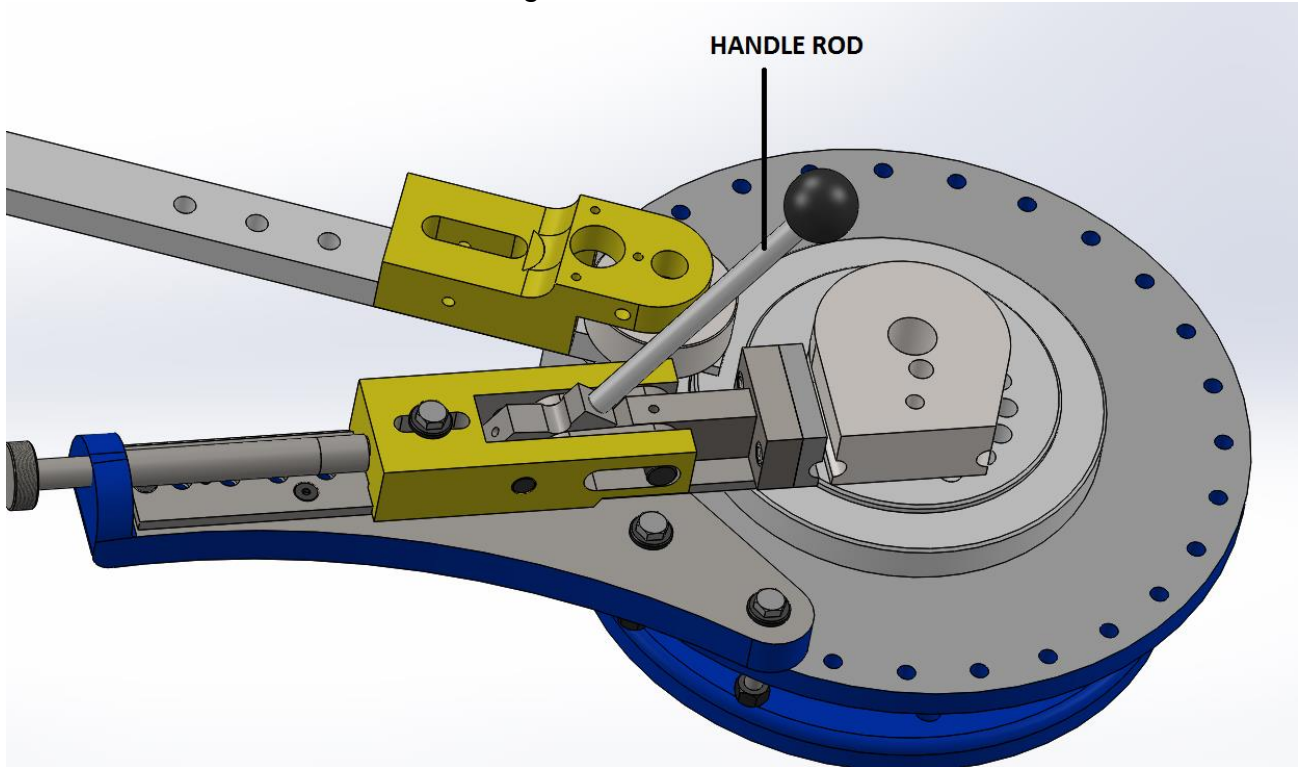

Figure 2: Handle Rod in the Forward, or Clamped, position
2. With the Clamp Block that corresponds to the radius collar installed onto the Quik-Lok, Index the handle rod forward, as shown in Figure 2.